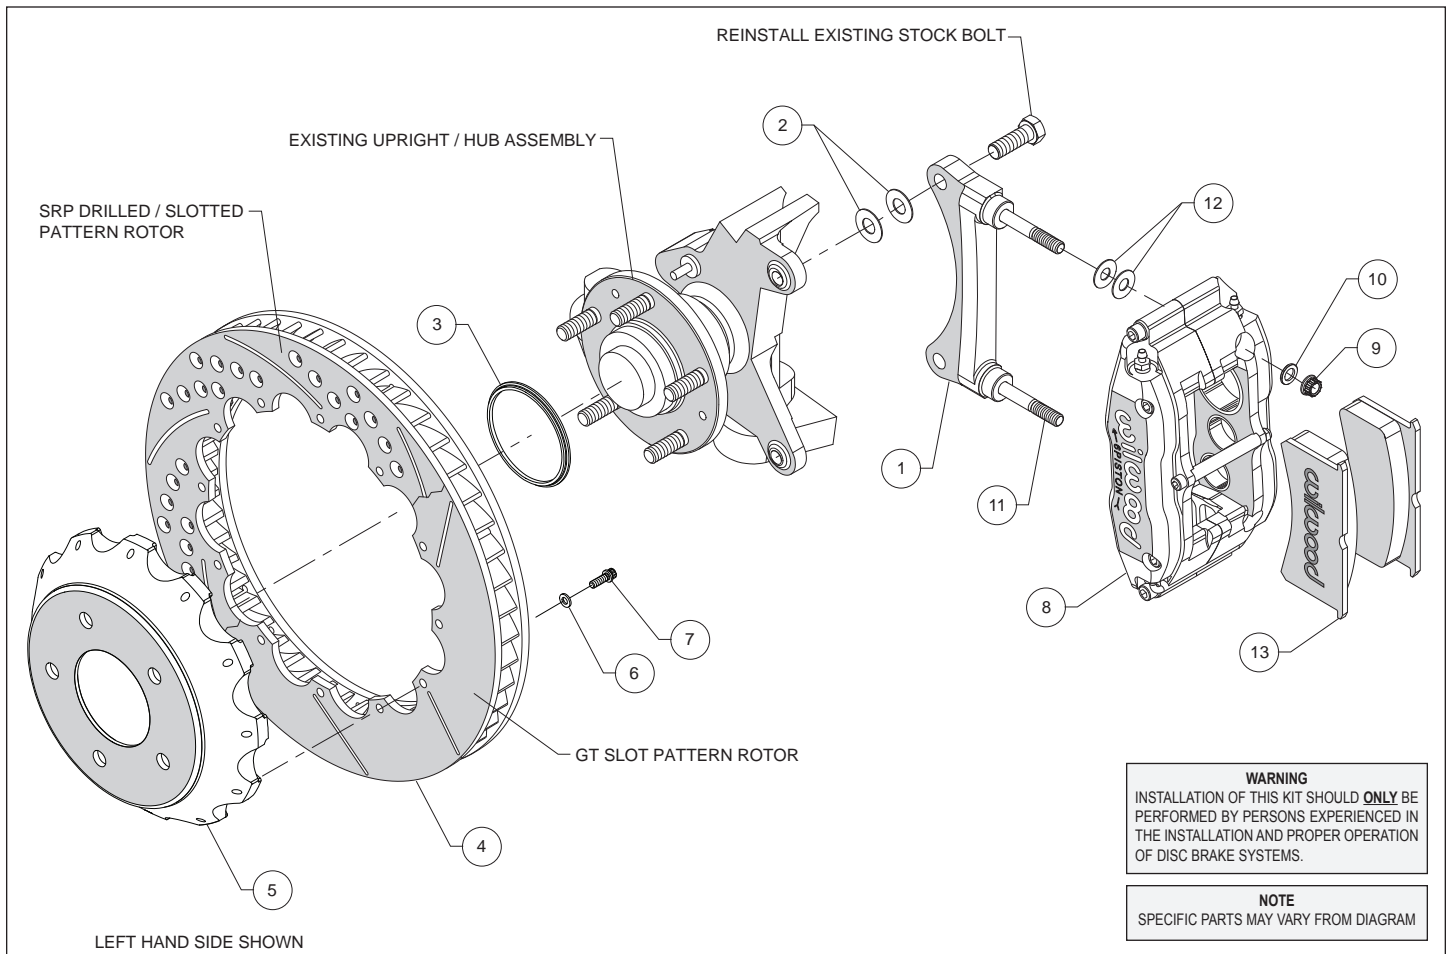
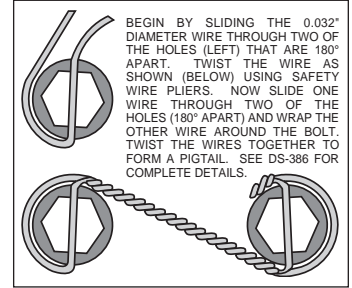

Figure 1. Typical Installation Configuration
Figure 3. Safety Wire Diagram
Assembly Instructions (numbers in parenthesis refer to the parts list and Figure 1 on the preceding pages):
- The caliper mount bracket (1) should initially be installed with clean, dry threads on the mounting bolts. Orient the bracket as shown in Figure 1, and install using saved Original Equipment Manufacturers (OEM) mounting bolts and shim washers (2). Initially place two shims (2) on each bolt between the bracket and upright, Figure 1. Temporarily tighten the mounting bolts. **NOTE:** The bracket must fit squarely against the mount bosses on the upright. Inspect for interference from casting irregularities, machining ridges, burrs, etc. Later, after the caliper alignment has been checked, the mount bolts will be secured using red *Loctite*® 271.
- Orient the rotor (4) and the hat (5) as shown in Figure 1 and Photo 1. Attach rotor to hat using bolts (7) and washers (6). Using an alternating sequence, apply red *Loctite*® 271 to the threads, and torque to 155 in-lbs. Safety wire bolts using standard 0.032 inch diameter stainless steel safety wire as shown in Figure 3. Please refer to Wilwood's data sheet DS-386 (available at www.wilwood.com/Pdf/DataSheets/ds386.pdf) for complete safety wire installation instructions.
- Slide the rotor registration adapter (3) onto the axle register on the axle hub with the smaller O.D. facing outward, Photo 2. Slide the hat/rotor assembly onto the axle hub. **NOTE:** The hat must fit flush against the axle hub flange or excessive rotor run out may result. Install three lug nuts (finger tight) to keep the hat/rotor assembly in place while continuing with the installation.
- **NOTE:** This kit contains distinct right and left hand calipers that must be mounted in a specific direction, as described below. Lubricate the caliper mounting studs (11) with lightweight oil. Initially place two .035" thick shims (12) on each stud as shown in Figure 1 and Photo 3. With the bleed screws pointing up, mount the caliper (8) onto the bracket (1) using lock nuts (9) and washers (10), Figure 1 and Photo 4. Ensure that the caliper is mounted so that the largest pistons are at the rotor exit end of the caliper, in relation to the direction of rotor rotation. Temporarily tighten the lock nuts and view the rotor through the top opening of the caliper. The rotor should be centered in the caliper, Photo 5. If not, adjust by adding or subtracting shims (2) between the bracket and the upright. Always use the same amount of shims on each of the two mounting bolts. Once the caliper alignment is correct, remove the bracket mounting bolts one at a time, apply red *Loctite*® 271 to the threads, and torque to manufacturer's specifications.